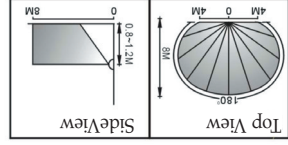

Fig. 1
The ZV810 can be installed at various heights from 0.8M to 1.2M to detect a zone up to 8M in range over a 180° angle. (See Fig. 1.)
- For best results mount the sensor switch to range over a 180° angle. (See Fig. 1.)